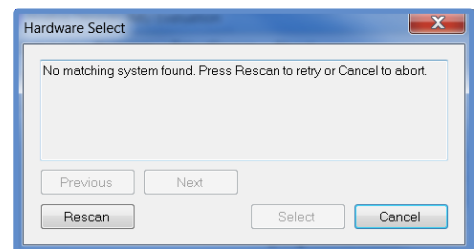

Figure 8. Hardware Select Window, No Device Found
2. If the **Hardware Select** window indicates that no device was found (see Figure 8), unplug the **EVAL-ADIS** from the PC, wait 2 sec to 3 sec, and then plug the **EVAL-ADIS** back into the PC-SUB port.